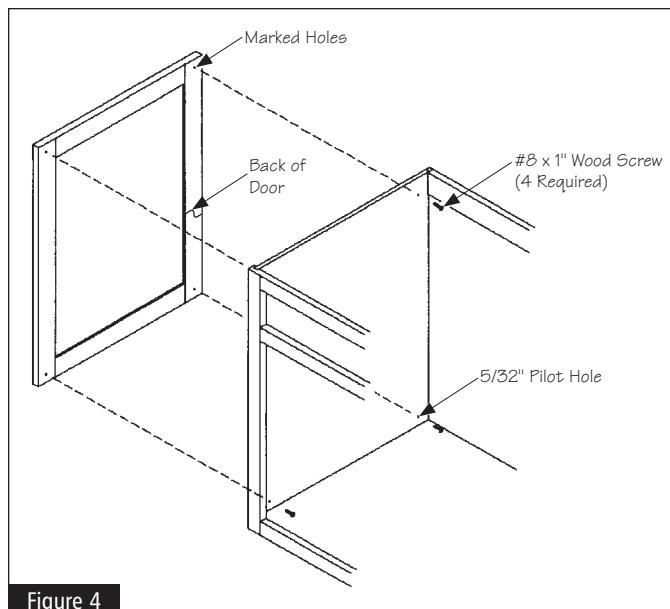

Figure 4
4 Have a helper re-position the door to the desired location on the side panel. From the inside of the cabinet, mark the back of the door through the pilot holes that were drilled through the side panel in Step 4. See Figure 4.
5 Using a 3/32" diameter drill bit, drill pilot holes into the back of the door at each marked location 3/8" deep. See Figure 4.
6 Erase pencil marks and re-position door back to the desired location and attach the door from the inside of the cabinet with (4) #8 x 1" Wood Screws per door. Do not over tighten and strip the threads on the screw. See Figure 4.